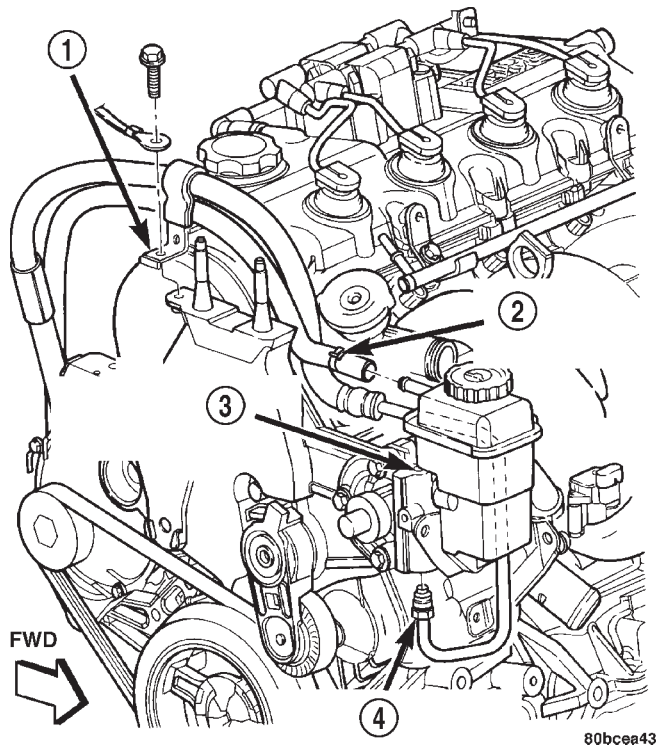

Fig. 7 Power Steering Hoses At Pump
(4) Open the routing clips on the right side of the power steering gear and remove the power steering fluid pressure hose tube from the routing clips. At the same time, remove the pressure hose tube from the gear.
(5) Lower the vehicle.
(6) Remove the bolt securing the hose routing clip in place on the right engine motor mount (Fig. 7). Remove the power steering fluid pressure hose from the routing clip.
(7) Back out the tube nut securing the power steering fluid pressure hose to the power steering pump and remove the hose from the pump (Fig. 7).
(8) Remove the power steering pressure hose from the engine compartment.
(3) Attach the power steering fluid pressure hose to the outlet fitting on the bottom of the power steering pump (Fig. 7). Tighten the pressure hose tube nut to a torque of 34 N·m (25 ft. lbs.).
(4) Install the power steering fluid pressure hose in the routing clip and attach the clip to the right engine mount (Fig. 7). Tighten the hose routing clip bolt to a torque of 12 N·m (105 in. lbs.).
(5) Raise the vehicle.
(6) Remove the bolt securing the hose routing clip in place on the right engine mount (Fig. 7). Remove the power steering fluid return hose from the routing clip.
(7) Remove the hose clamp securing the return hose to the power steering fluid reservoir (Fig. 7). Slide the hose off the end of the reservoir fitting.
(8) Remove the power steering return hose from the engine compartment.
(1) Slide a hose clamp onto the power steering pump end of the hose far enough to clear the fitting on the power steering fluid reservoir once the hose is installed.
(2) Install the power steering return hose into the engine compartment from the top. First, guide the pump end of the hose onto the fitting on the power steering fluid reservoir, then route the rest of the hose along the right side of the engine (Fig. 7). Guide the gear end of the hose down behind the back of the engine towards the power steering gear.
(3) Expand the hose clamp and slide it onto the fluid reservoir fitting. Secure the clamp once it is past the bead formed into the fluid reservoir fitting.
(4) Install the power steering fluid return hose in the hose routing clip and attach the clip to the right engine mount (Fig. 7). Tighten the hose routing clip bolt to a torque of 12 N·m (105 in. lbs.).